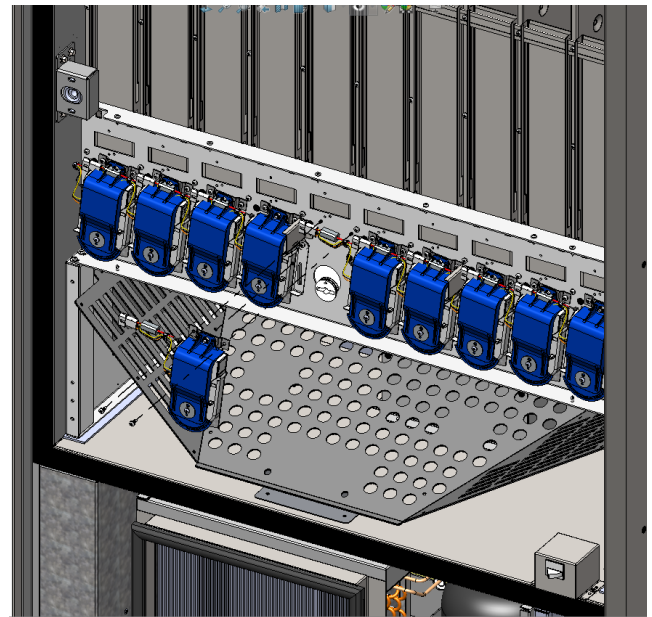

Figure 5.2 Motor Installation/Removal Shown without Motor Cover
4. Remove the two mounting screws at the top of the motor and remove the motor by pulling straight back until the output shaft of the motor is free from the rotor. See Figure 5.2 to the right.